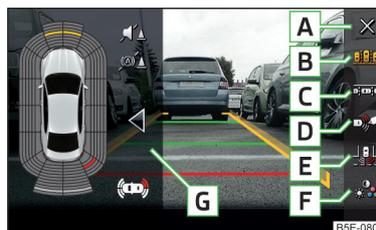

Fig. 252 Function surfaces
Function surfaces » Fig. 252
- › Tap the function surface **C** » Fig. 252 on page 220.